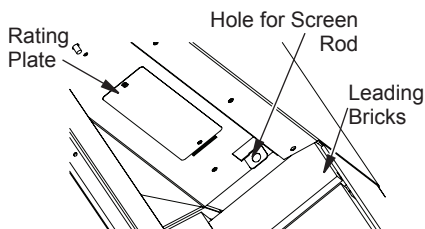

Figure 14 - Installing Fireplace Screen
2. Insert the round end screen rod into hole on the left and right side of smoke shelf (Figure 14).